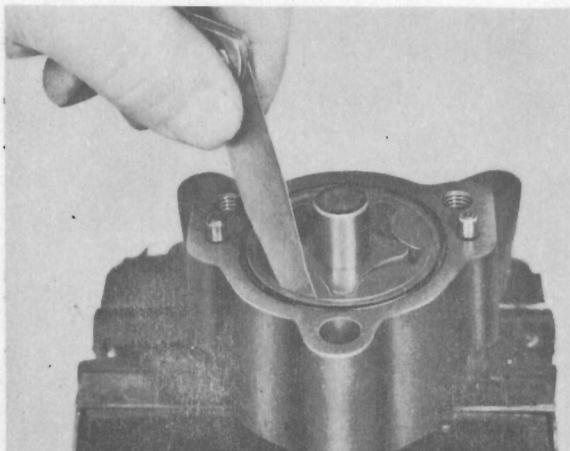

Fig. L.10.
3. Check the clearance between the driven rotor and the pump body, see Fig. L.10.